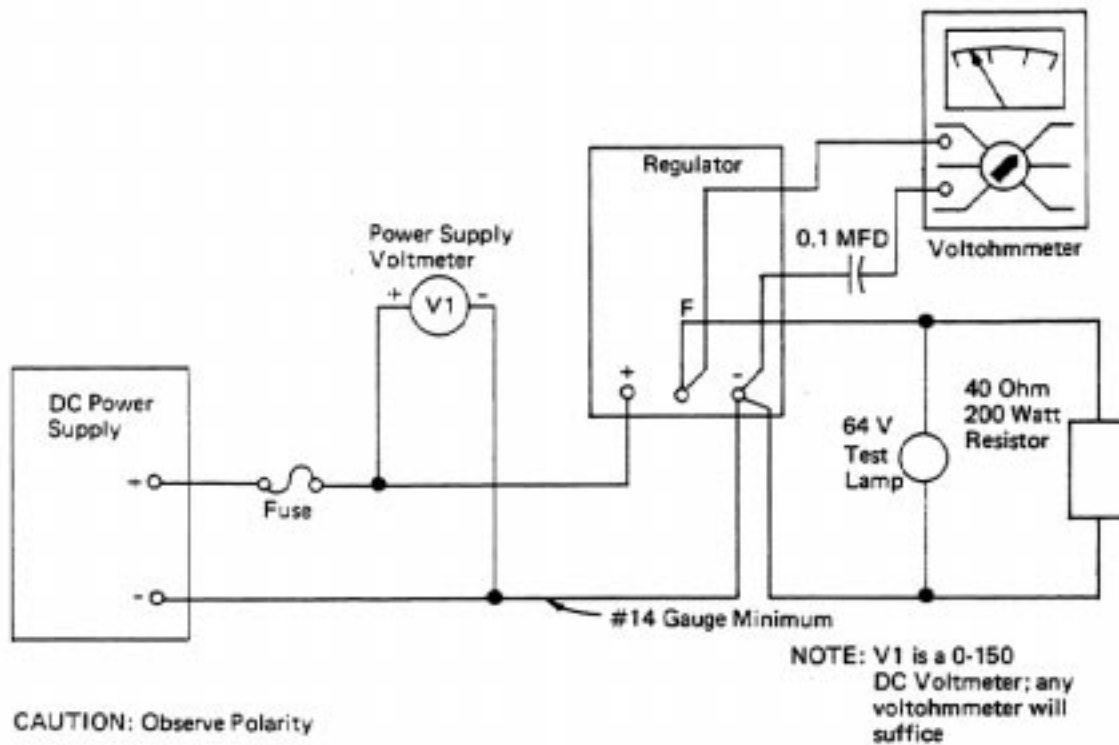

Fig. 8 - Regulator Test Circuit
12. Connect a voltohmmeter (VOM) to test circuit as shown in Fig. 8. Connect positive lead from VOM to F terminal of regulator. Connect a .1 microfarad capacitor in series between negative (common) lead from VOM and negative terminal of regulator.